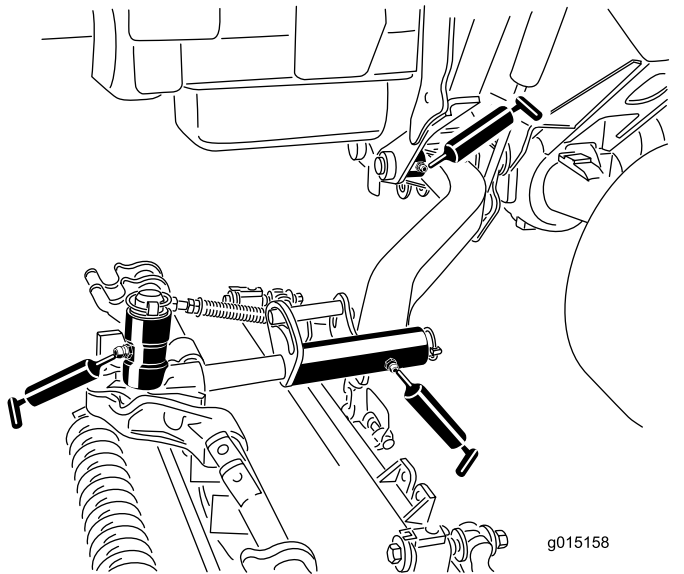

Figure 71
- Lift arm pivot bushings (1 per cutting unit), refer to Figure 71
- Cutting unit carrier frame (2 per cutting unit), refer to Figure 71
- Cutting unit lift arm pivot (1 per cutting unit), refer to Figure 71